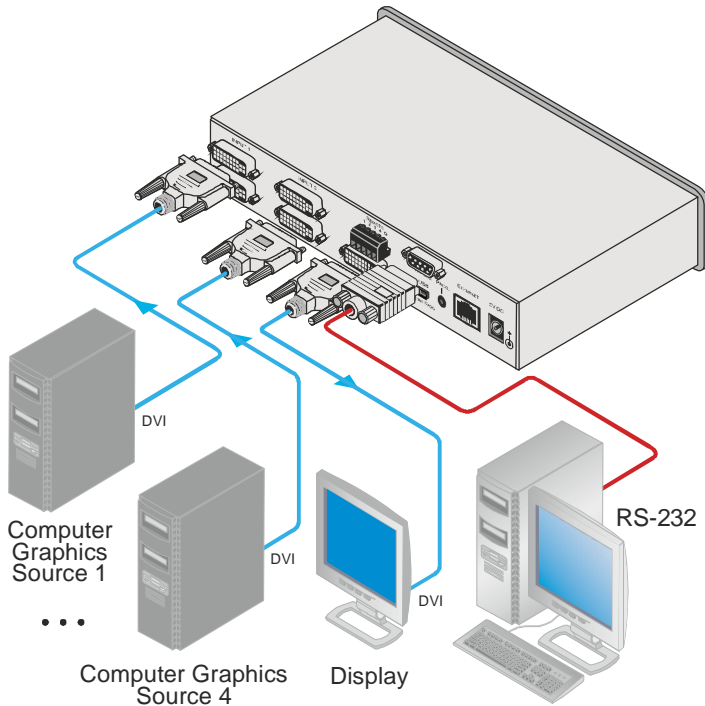

Figure 3: Connecting a VS-41HDPC 4x1 DVI Switcher
| Figure 3: Connecting a VS-41HDCP 4x1 DVI Switcher | 7 |
To connect the **VS-41HDCP 4x1 DVI Switcher** (as illustrated in Figure 3), do the following:
4. Connect the 5V DC power adapter to the power socket and connect the adapter to the mains electricity (not shown in Figure 3).